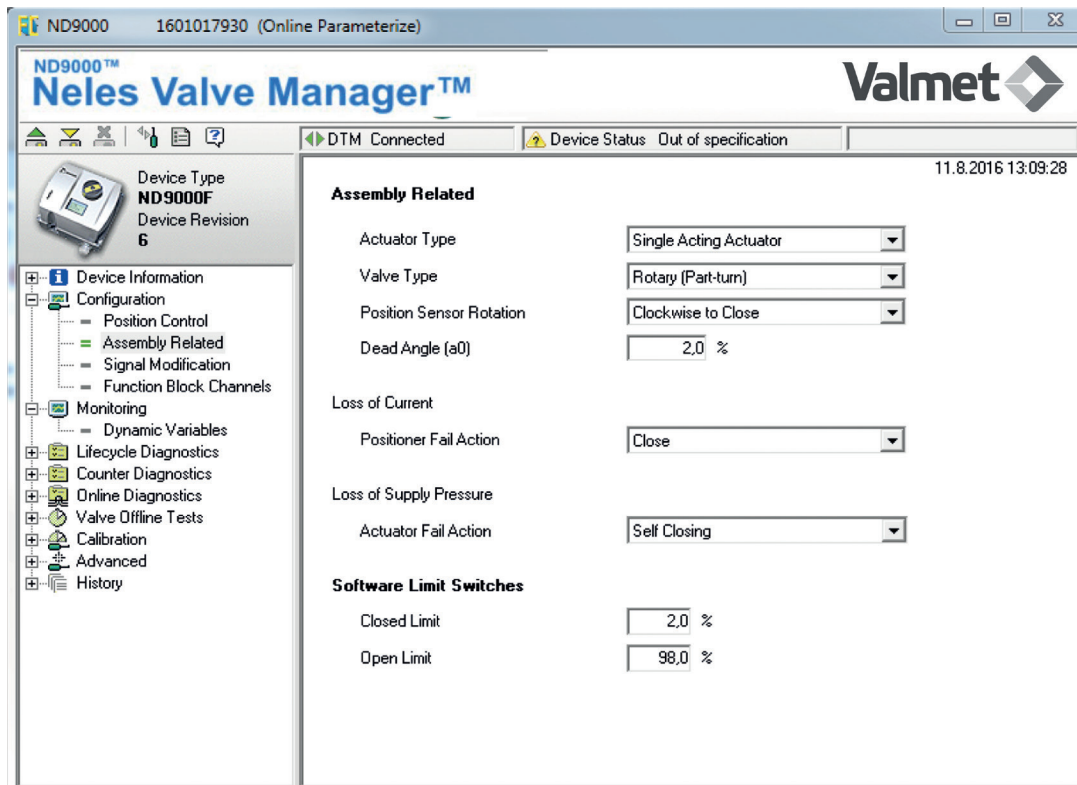

Figure 1. Assembly related parameters' setup in Neles Valve Manager DTM
1. See figure for assembly related parameter settings, see Figure 1.